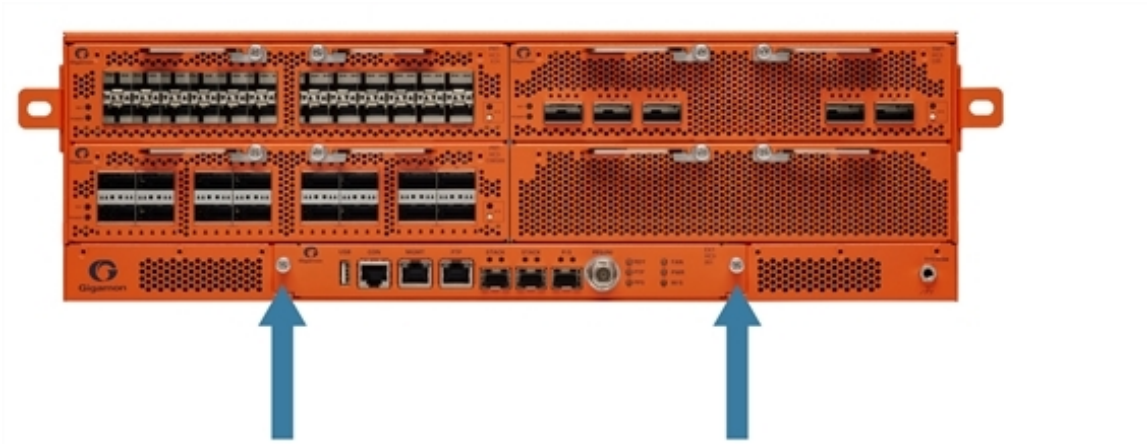

Figure 15 Extension Board Screw Location on GigaVUE-HC3 Front
2. Locate the two thumb screws on the extension board as shown in Figure 15 Extension Board Screw Location on GigaVUE-HC3 Front.